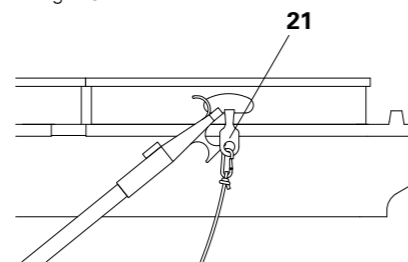

Fig. A9.24a
2. Once the Panel Clip SPK is secured, remove it using the hook of the telescopic boat hook. (Fig. A9.24a).